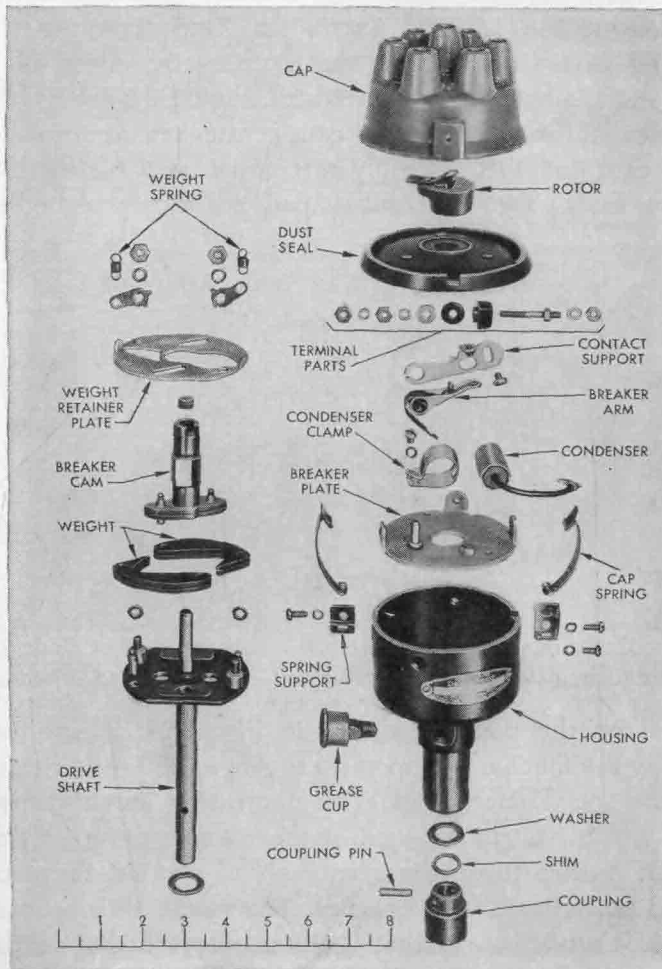

FIG. 1-23. Disassembled view of a distributor. Advance mechanism is to left. (Delco-Remy Division of General Motors Corporation)
1. *Advance based on speed.* To ignite the mixture earlier at high speed, a spark-advance mechanism is used. This mechanism is incorporated in the ignition distributor. One type consists of a centrifugal device that pushes the breaker cam ahead of the distributor shaft as engine speed increases. Figure 1-23 shows the parts of this mechanism. The breaker cam is attached to an oval-shaped advance cam and this assembly sets down on a plate attached to the drive shaft. Two crescent-shaped advance weights are also